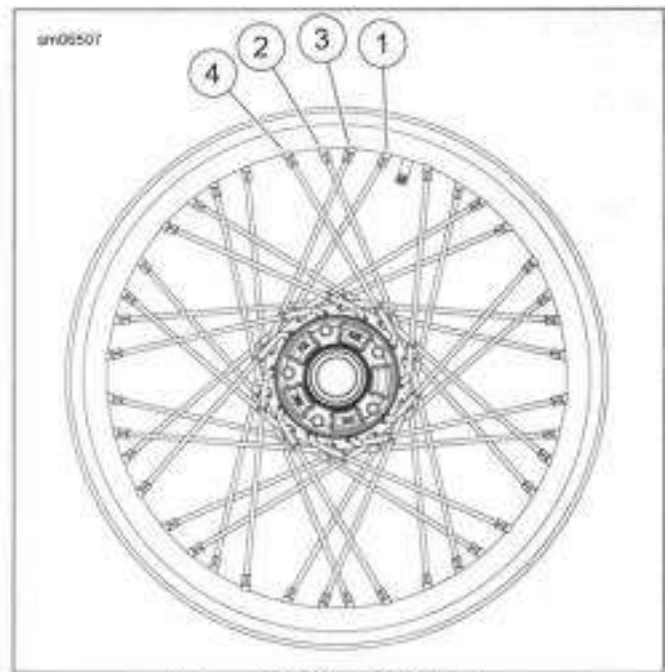

Figure 3-12. Center Valve Rim
- Rim with center valve hole:** See Figure 3-12. Start at the first hole counterclockwise (1) from valve stem hole.
- Starting at the second hole counterclockwise (2) from first spoke installed, install inner spoke.
- Starting at the first hole counterclockwise (3) from first spoke installed, install inner spoke. Install remaining inner spokes in every fourth hole.
- Install outer spokes in remaining holes (4).